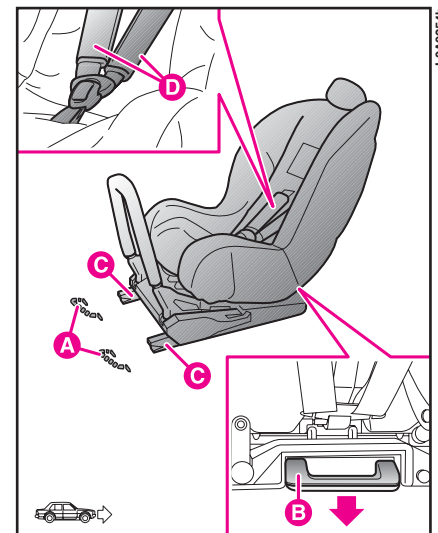

fig. 83
For children included in this weight group (up to 13 kg) the restraint system faces back and the child is held by the restraint system belts D (fig. 83).
- check whether the release lever **B** (fig. 83) is at rest position (inward);
– identify the brackets **A** (fig. 83) and mount the child restraint system with the retainers **C** (fig. 83) aligned to the brackets;